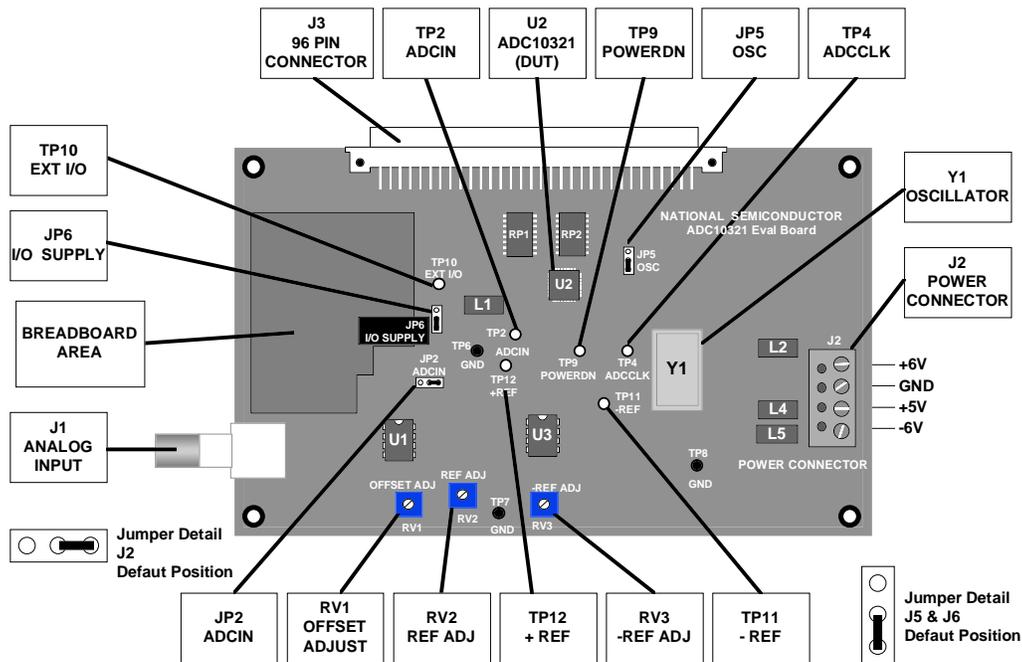
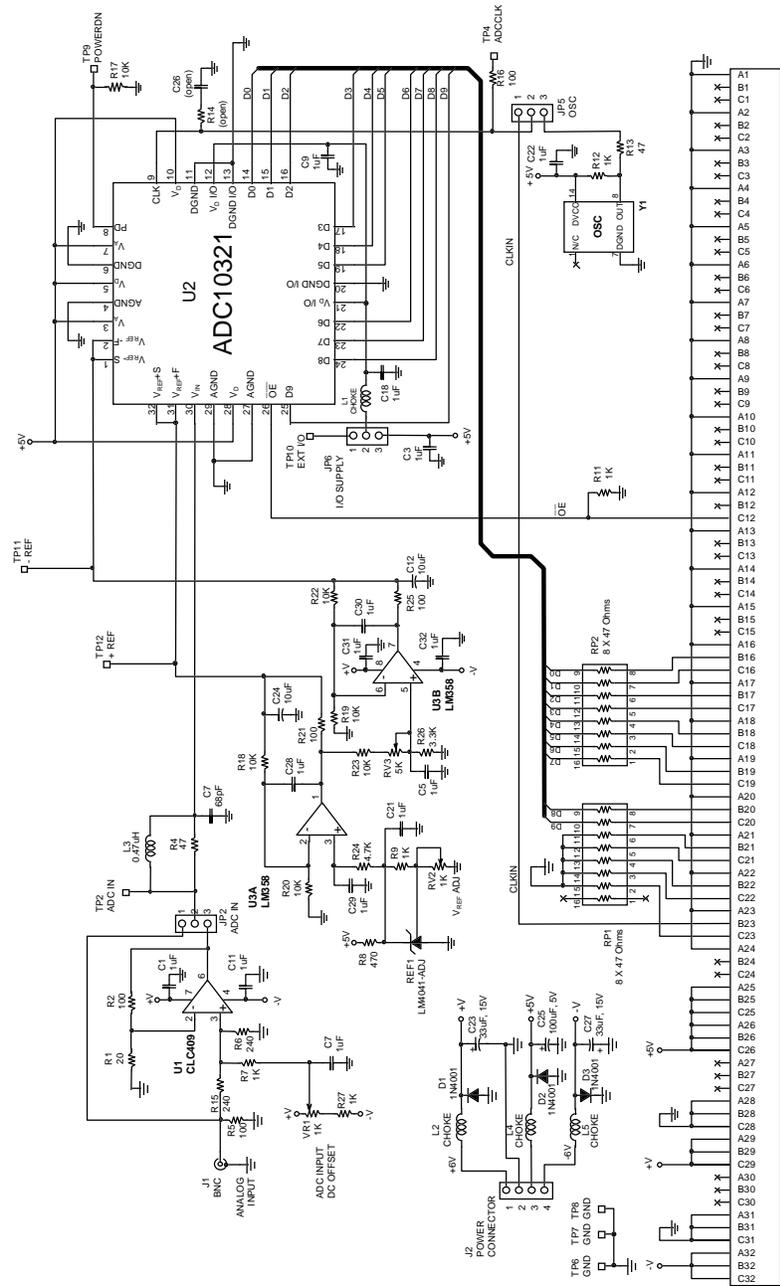

Figure 1. Component Locations. Jumpers are shown in default positions
Figure 2. Eval Board Schematic
The ADC10321 Evaluation Board can come as a bare board with a surface mounted ADC10321 and must be assembled, or can be purchased as a fully assembled board. Refer to Figure 1 for the location of major components, to Bill of Materials (Section 8.0) for component description and part types and to Figure 2 for the Evaluation Board schematic.
Once the board is assembled, the following will allow you to get the board up and running quickly. The digitized signal is available at pins B16 through B20 and C16 through C20 of J3. See the Evaluation Board schematic of Figure 2 for details.
1. Be sure that all jumpers are in their default positions, as shown in Figure 1.
Figure 1 shows the block diagram of the ADC10321 evaluation board. U2 is the device under test. This board supports the ADC10221, ADC10321 and the ADC10030 Analog-to-Digital Converters.
The digital data from the ADC10321 output, as well as a clock signal for this data, is available at the 96 pin DIN Connector J3 (See Figure 2). Resistors RP1 and RP2 are used to isolate from any circuits or instruments that the ADC10321 drives, helping to reduce the digital noise that gets back into the analog input.
Power for the ADC10321 can come from the +5V applied to Power Input Connector J2, or from an external +5V supply applied to TP10. Selection of the ADC10321 supply source is done with Jumper JP6. See Figure 1.